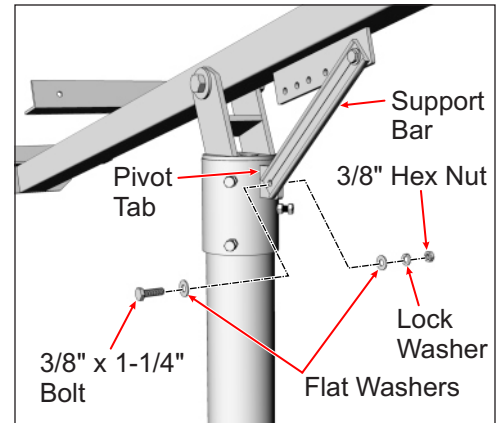

Figure 2-3: Securing Support Bar to Mounting Sleeve
- F. Pivot the Strongback and the Support Bar to align the mounting holes of the Support Bar with the Pivot Tab on the Mounting Sleeve. Insert the 3/8" x 1-1/4" bolt and one flat washer thru the Support Bar and Mounting Tab and secure it with the remaining flat washer, lock washer and hex nut. **Torque hardware on both ends of Support Bar at 32-34 ft.-lbs.** (See Figure 2-3)